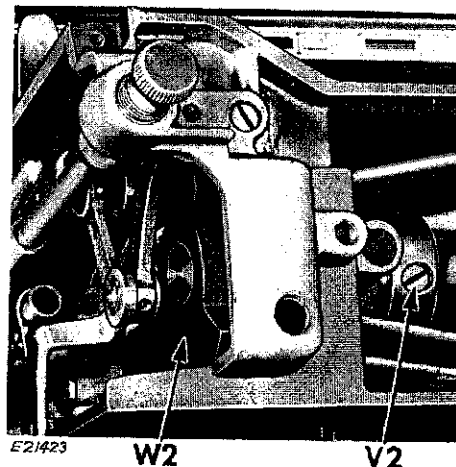

Fig. 18. Adjusting Arm Shaft For Correct End Play
1. Remove top cover, and loosen set screw V2, Fig. 18 in collar
2. Push collar and crank W2, Fig. 18 toward each other and tighten set screw V2